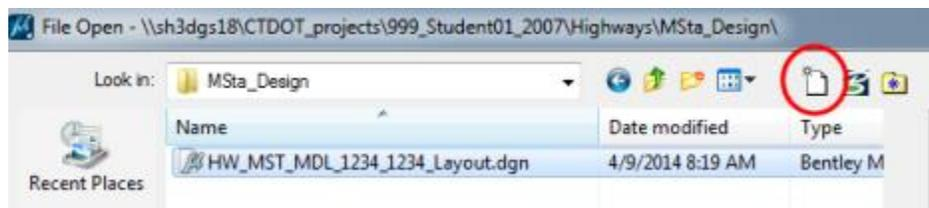

Figure 2 - New File
- G. In the MicroStation Manger window, select the **new file** icon (Figure 2). Click on the **Browse** button to select a 3D seed file. Select and open the following seed file: